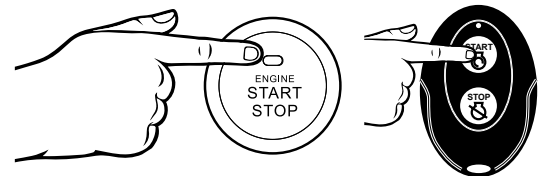

Figure 11 - Push Button Start/Remote Start
6. Push and hold the push button start until the generator starts, then release. If using remote start then hold down **START** on the remote key fob until the generator starts, then release (see Figure 11).